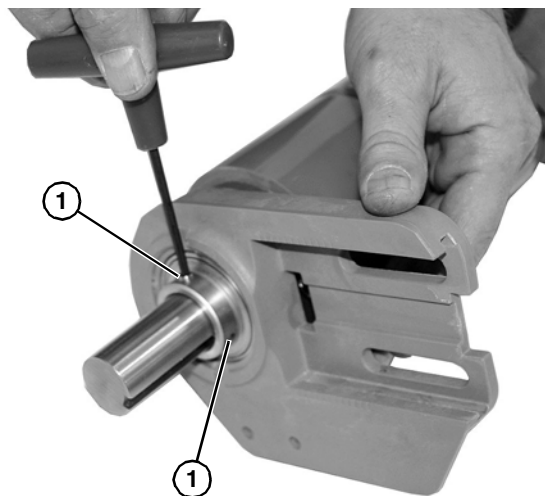

Figure 40
- Loosen two set screws (Figure 40, item 1).